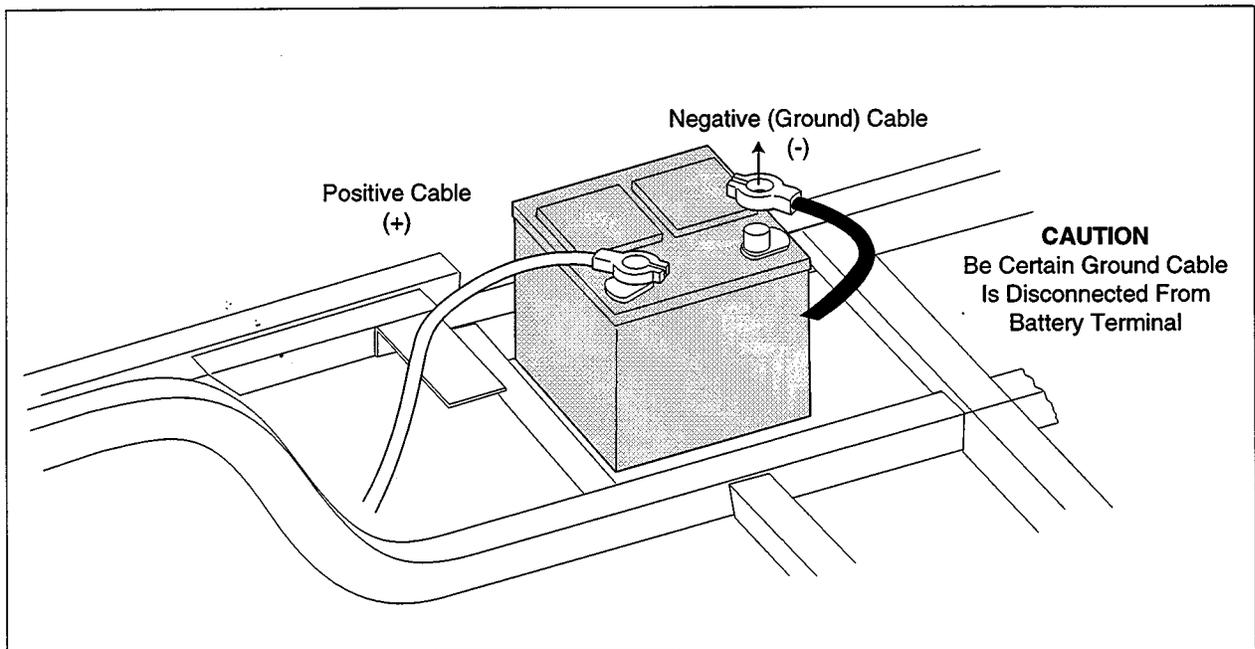

Fig. 1 Negative (Ground) Cable Connection
3. Using an insulated wrench, disconnect the battery ground cable and cover negative battery terminal (-) with a shop rag. (See Fig. 1)